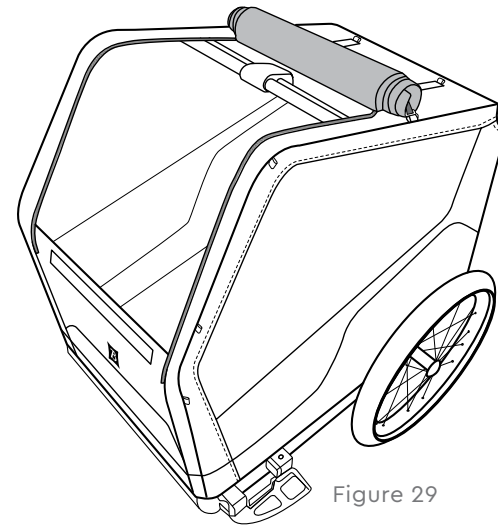

Figure 29
1. The front mesh window can be unzipped from the front of the trailer. The window can be rolled and fastened by inserting the door hooks in the reflective loops at location ② (Figure 29).